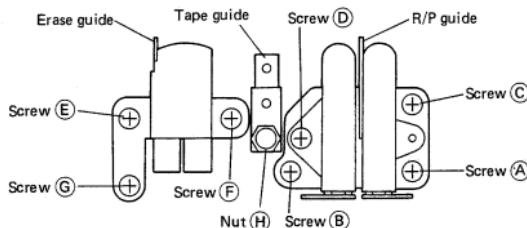

Fig. 4-2
CAUTION 1: Upon replacement of the record/repro head and/or the erase head, loosely tighten screws (A) ~ (G) (Fig. 4-2) then turn them one half back, before starting to perform the following steps. In addition, the procedures require the following materials: